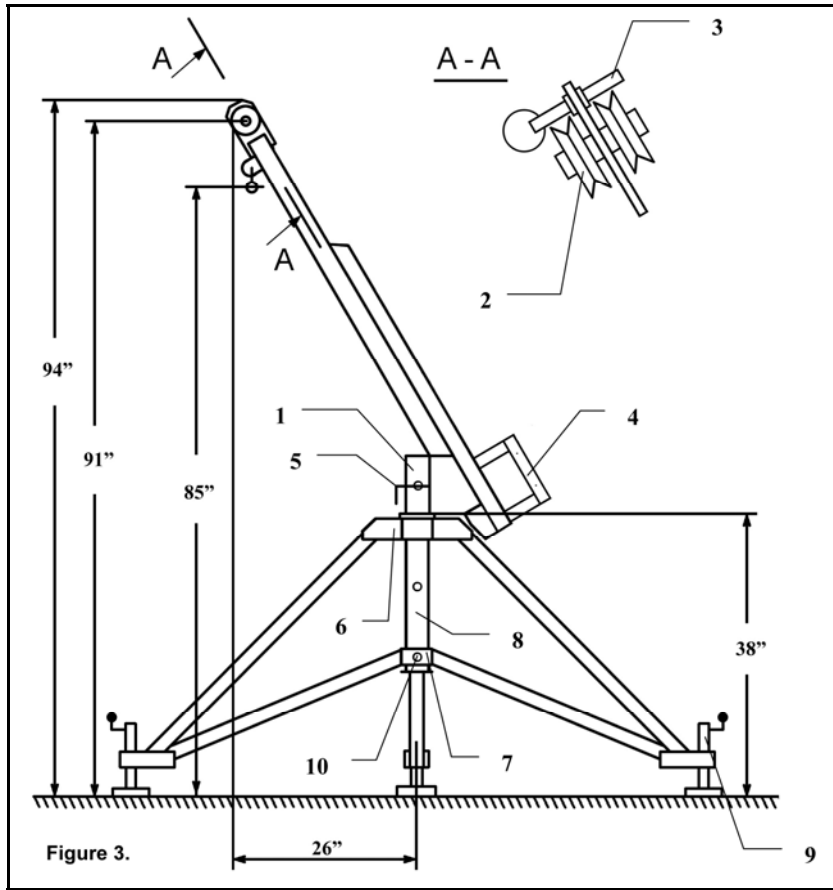

Figure 3.
The FCP Quadpod consists of two parts -a boom and a base (Figure 3).
1. Boom (Figure 1). The boom is made of steel, and has on one end a cylinder (1) for attaching to the base. The opposite end of the boom has two pulleys (2) with a security pin (3) for the fall protection and rescue equipment. There are two brackets (4 and 5) for the attachment of FCP types of fall protection and recovery systems. There exist two sets: Three-Way Fall Protection and Recovery Unit with a Work Winch (Figure 1), and Three-Way Rescue and Recovery Unit with Personnel Winch (Figure 2). In Figure 3 bracket (4) is for the attachment of a Three-Way fall protection and recovery unit and bracket (5) is for the attachment of a Work Winch. In Figures 2 and 3 bracket (4) is for the attachment of a 3 Way Reescue and Recovery Unit and bracket (5) is for attachment of a Personnel Winch. When the boom is attached to the base by the cylinder, the boom can be rotated by an angle of 360 degrees. The screw handle (6) is designed to fix or release the boom on the base in the necessary position.
2. Base. The base is a construction with four points of support, each of which is a triangular truss consisting of square aluminum tubes. One tube of each triangle is connected to the upper aluminum head (7) while a second tube is connected to a moving collar (8). The two tubes are connected to each other in a hinge-like manner. The central post (9) is a common support for all four triangular trusses. The upper end of the central post is a cylindrical shaft (Figure 3, Position 10) onto which the cylinder (1) of the boom is attached. To level the base on a surface, each point of support ends in an adjustable threaded foot (11).